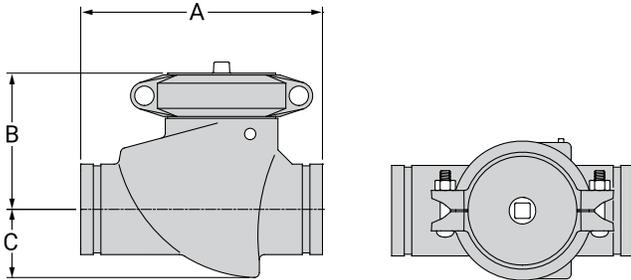

Fig. 90G Check Valve
Check Valve Fig. 90G
The Fig. 90G Check Valve is designed for use with Gruvlok couplings, an ASC Engineered Solution, for fast and easy installation on grooved pipe.
All Fig. 90G Check Valves are supplied with a 1/2" NPT pipe plug installed in the bonnet cap.
The Fig 90G must be installed with the arrow on the valve body point in the direction of flow through the pipeline. This valve must be installed on horizontal pipelines only.
The Fig 90G check valve life may be shortened and system damage may occur if check valves are installed too close to a source of unstable flow. Check valves must be installed at a reasonable distance away from pumps, elbows, expanders, reducers or other similar devices. Sound piping practices dictate a minimum of five (5) times the pipe diameter for general use. Distances between three (3) and five (5) diameters are allowable provided the flow velocity is less than 8 feet per second. Distances less than 3 diameters are not recommended.